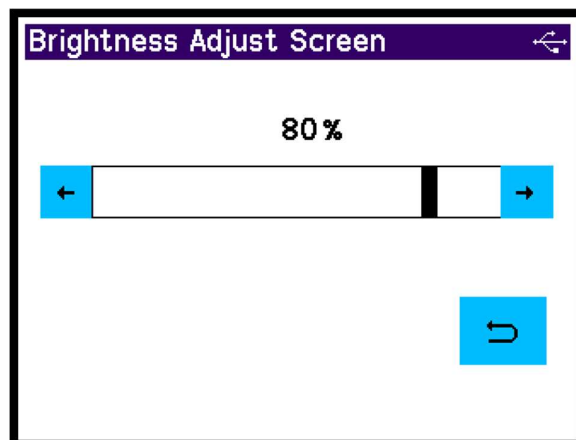

Figure 22
2. Press the  and the Brightness adjust screen (figure 22) will be displayed. Use the slider bar to adjust the screen to the required brightness.